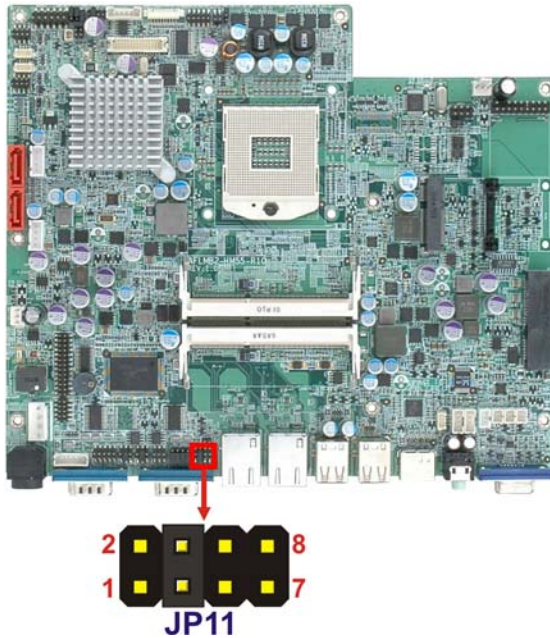

Figure 3-12: COM3 RX Function Select Jumper Location
- Jumper Location:** See **Figure 3-12**
The COM3 RX Function Select jumper location is shown in **Figure 3-12**.